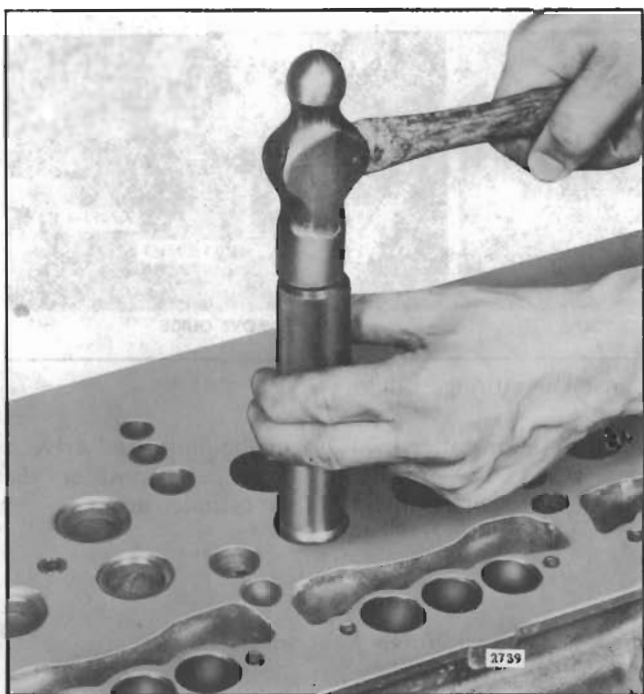

Fig. 10 - Installing Valve Seat Insert
5. Drive the insert in place with installer J 24357 as shown in Fig. 10 until it seats solidly in the cylinder head.